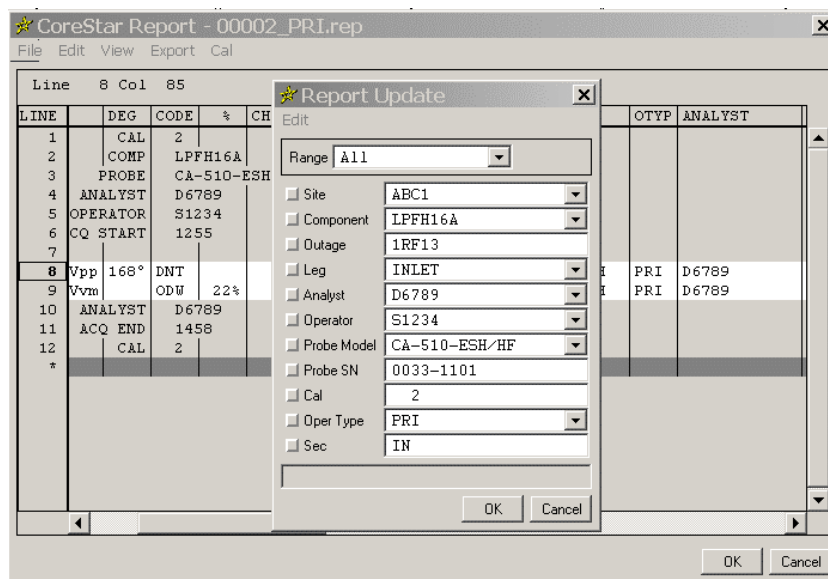

Figure 1-34. Modifying Report Entries Using the Report Update Dialog
- STEP 30:** Right-click on the **Analyst** column header. As shown in Figure 1-34, a **Report Update** dialog appears. This dialog is used to make global changes to non-text fields in the report. The **Outage** and **Probe SN** fields are the only ones that can be edited manually. All the other fields are controlled by **Lookup** tables or **Summary** entries.